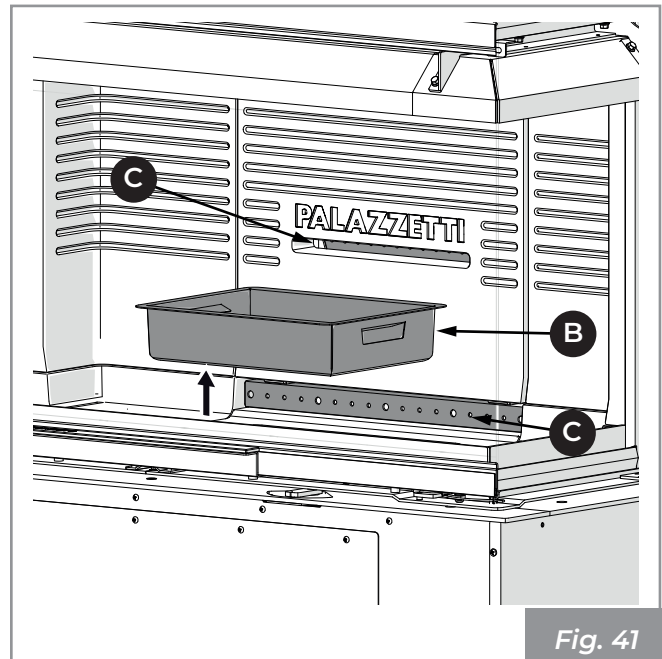

Fig. 41
- 2) Extract the ash drawer (B) from the base and vacuum out any ash deposited in the compartments below (**Fig. 41**).
- 3) Vacuum the front and rear holes (C) of the combustion air distributor in order to avoid any accumulation of ash (**Fig. 41**).